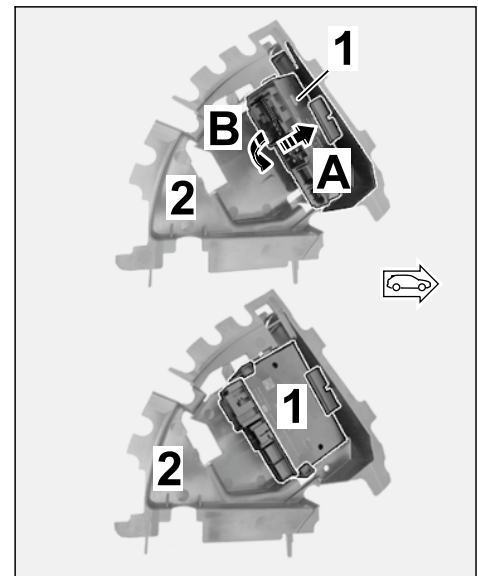

Figure 13
2.4.5 Fit trailer hitch control unit into the bracket (⇒ *Figure 13*).